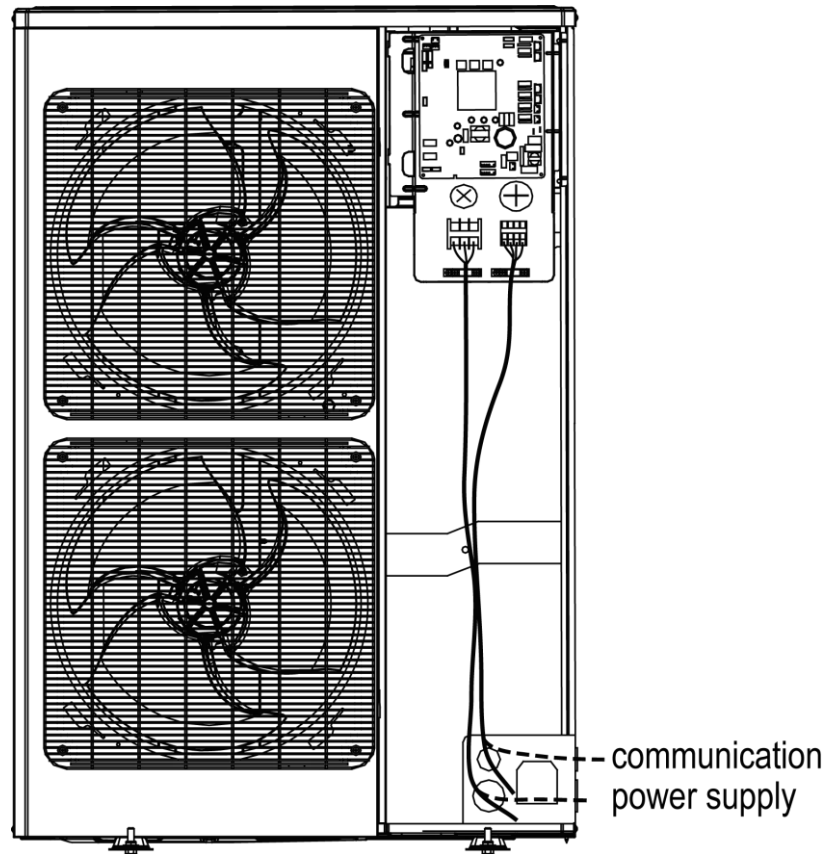

Fig. 29 Engineering Wiring View of AEG08MSIH3
- (1) Please refer Fig. 29 and 30 for engineering wiring. If there is the hole for cable tie in wiring route, please fix the wire with cable tie. Connect the power cord and communication cable to the corresponding terminal board and grounding screw according to the wiring diagram.
- (2) Please be noted that engineering wiring cannot touch the pipe and appliance.
- (3) This figure is only applicable for engineering wiring reference of power supply and communication cable. If there are differences between the figure structure and actual unit, please refer to the actual unit.
- (4) For engineering wiring, please refer to the wiring diagram provided with the unit.